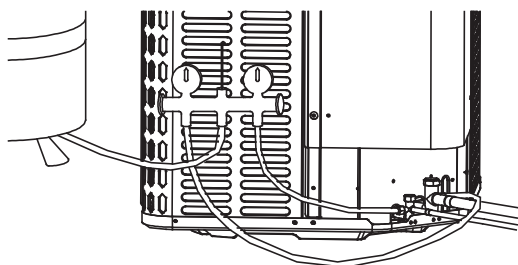

Figure 15-9
- Connect gauges to refrigerant bottle and unit as illustrated (Fig. 15-9).